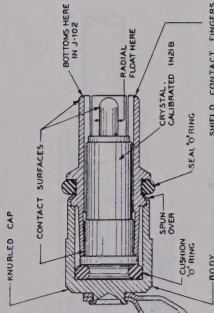

Fig. 5-1. Crystal Unit Rectifying Crystal Diode, CR-101, CR-102
b. Crystal Diodes. Occasionally lubricate the O-ring seal on the crystal diode unit (Figure 5-1) with a non-petting electric compound such as Dow Corning 111. The compound should be applied to the contact surface of the voltmeter socket. Bend slightly, making sure not to damage the center pin of the diode. Do not allow the two crystal diodes supplied with the instrument to be interchanged with any other 6100 Series Wattmeter.